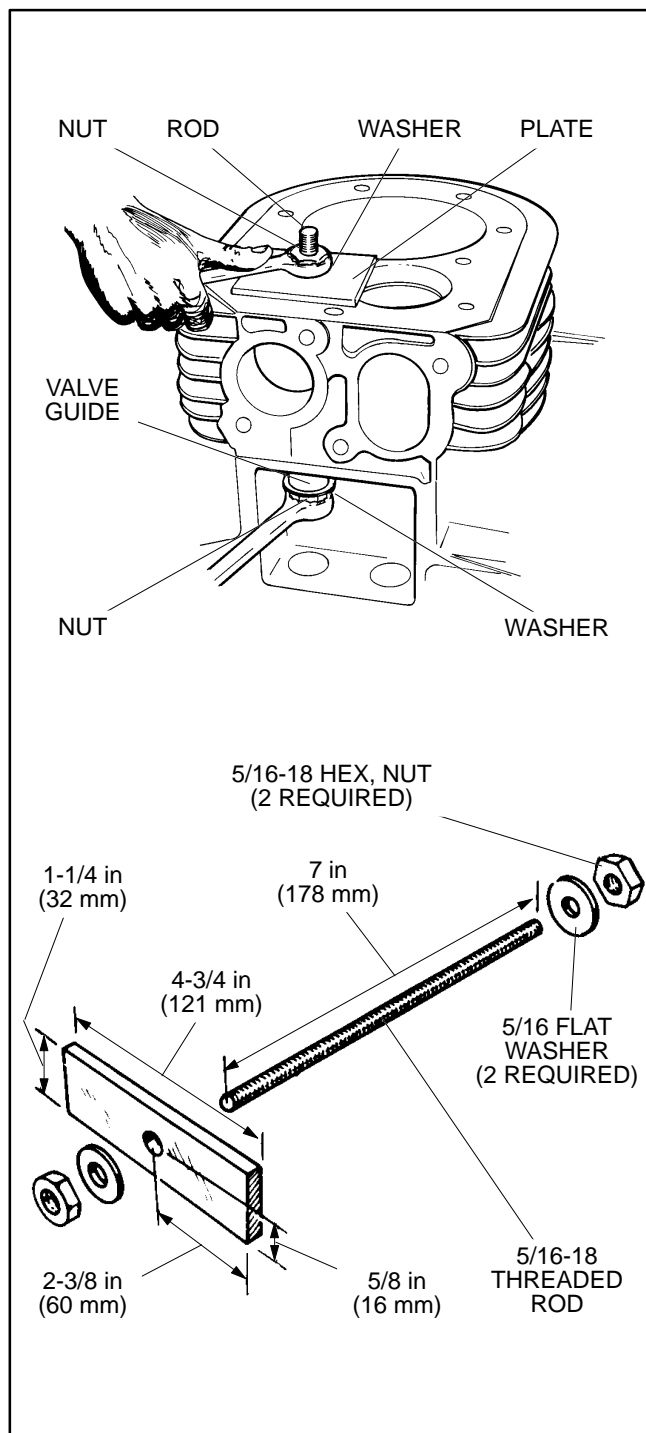

FIGURE 7-9. SUGGESTED TOOL FOR INSTALLING THE VALVE GUIDES
3. Place the guide, notch up, in the cylinder block and press it in until the shoulder of the guide rests against the cylinder block (Figure 7-9).